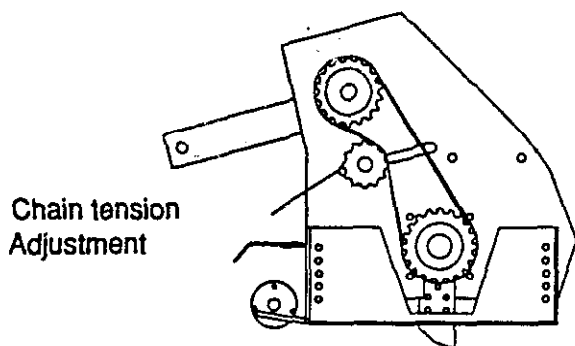

FIG. 2
3. **CHAIN TENSION:** The tension of the drive chain can be adjusted by moving the idler sprocket on the slot it is mounted (See Figure 2). A  $\frac{1}{8}$ " deflection is recommended. Do not over tighten, this will cause chain wear. Do not allow the chain to remain loose, this will cause sprocket wear.